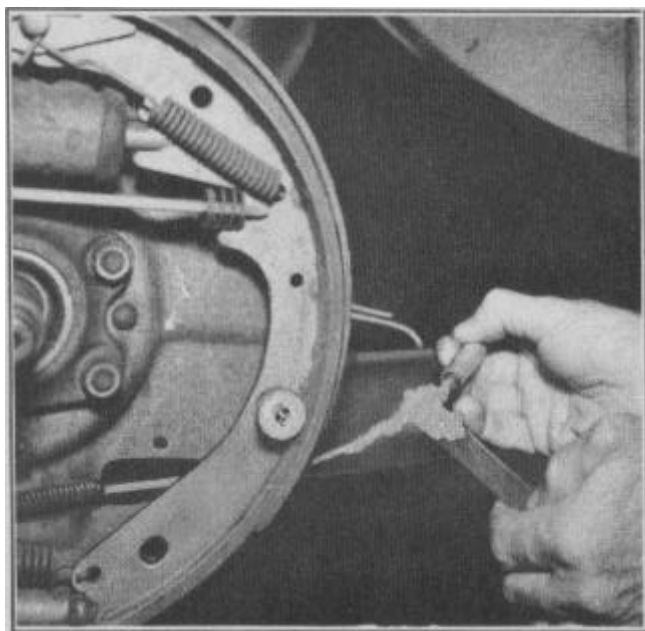

FIGURE 10
7. Clean the exposed portion of all hand brake cables and then pull the cables through conduit from the wheel end to expose that part of cable that is sheathed by the conduit. Clean this portion of the cable and lubricate freely with viscous chassis grease. Figure 10.